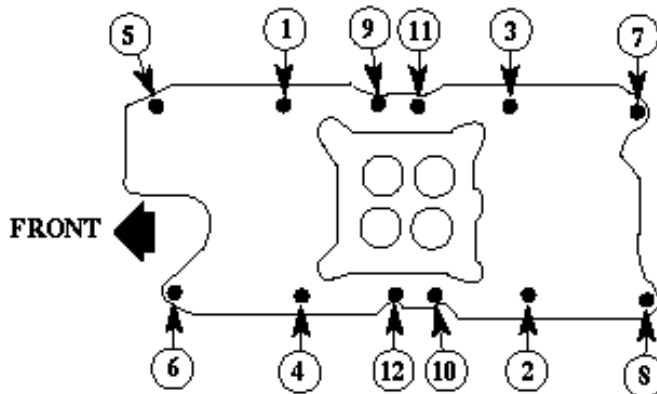

Figure 1
1. On early model heads, there is no support underneath manifold bolts circled 5,6,7, and 8. You will need to hand tighten these bolts being careful not to damage the manifold. Torque all other manifold bolts circled in Figure 1 to 25 ft/lbs. See Figure 1 for proper sequence.